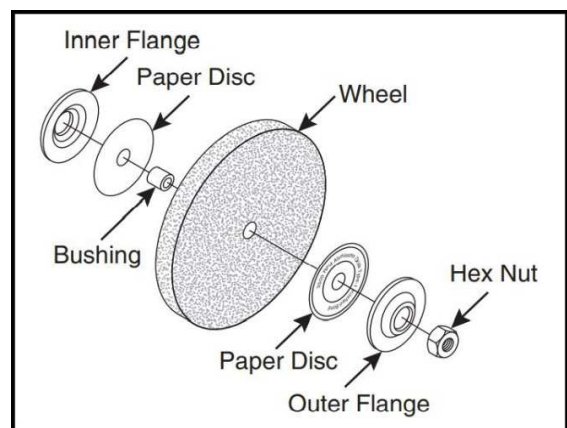

Figure 13
6. Now remove the grinding wheel and bushing from the spindle. Pay attention to the fiber or paper disc between the wheel flange and wheel. The paper disc is there to cushion the pressure of the wheel flanges and help to be distribute the pressure evenly. See figure 13.
8. Mount the new grinding wheel and bushing in the order displayed in figure 13. Tighten the M6-1 hex nut firmly,